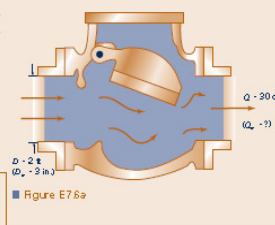

Figure E7.6a
**GIVEN** Model tests are to be performed to study the flow through a large check valve having a 2-ft-diameter inlet and carrying water at a flowrate of 30 cfs as shown in Fig. E7.6a. The working fluid in the model is water at the same temperature as that in the prototype. Can plane geometric similarity exist between model and prototype, and the model inlet diameter is 3 in.